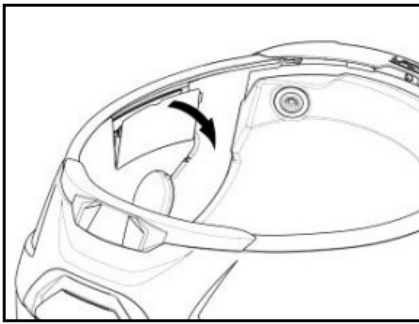

Fig. 1
- On the left side of the helmet, open the cheek pad lining door (Fig. 1). Remove the filling material. Keep it in case you want to use your helmet without the N-Com system installed in the future.